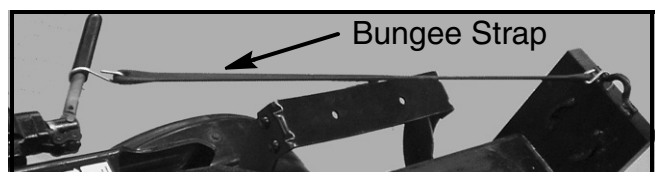

FIGURE 3
10. Place and temporarily restrain the control valve lever in the EXTEND position. Optional method, see Figure 3.